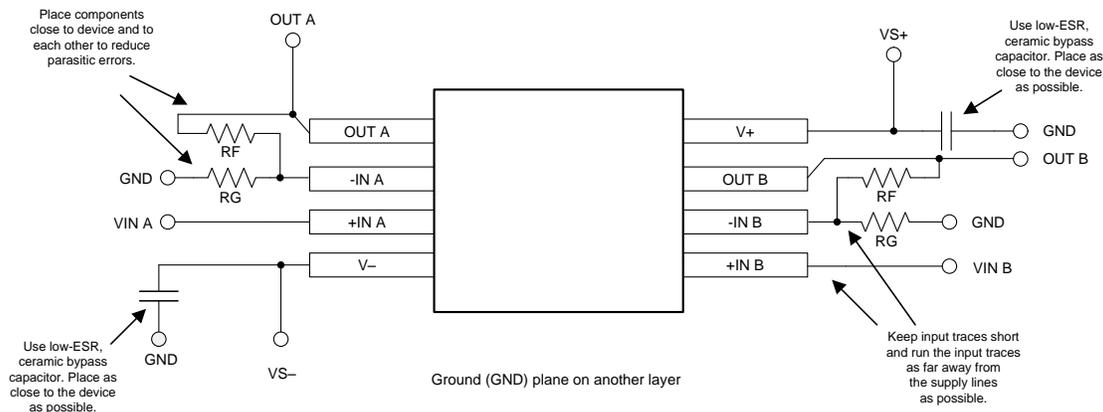

Figure 39. Layout Example
- Place the external components as close to the device as possible, as shown in Figure 39. Keeping RF and RG close to the inverting input minimizes parasitic capacitance.